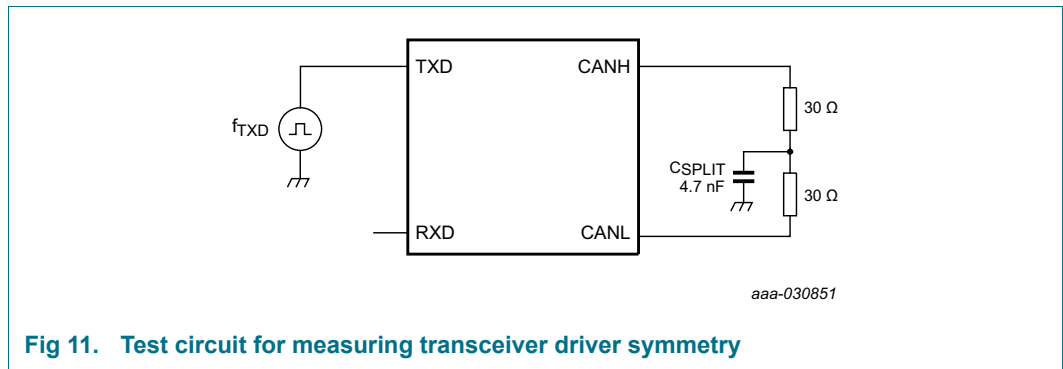

Fig 11. Test circuit for measuring transceiver driver symmetry
- [4] The test circuit used to measure the bus output voltage symmetry (which includes C_{SPLIT}) is shown in Figure 11.